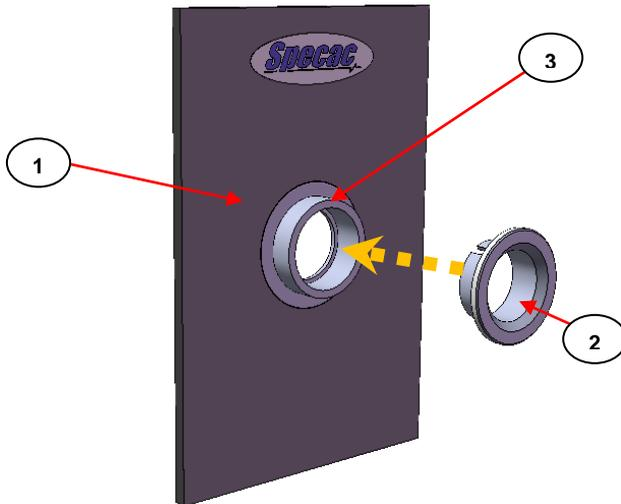

Fig 24. 13mm Diameter Pellet Holder GS03410
Supplied with the Advanced Solid Pack is the 13mm diameter pellet holder P/N GS03410. The pellet holder consists of a 3" x 2" slide mount plate (1) with a central 11.8mm diameter aperture and circular clip mount and retainer assembly. A 13mm diameter KBr pellet up to 3mm thick is held between the front ring clip part (2) and the central retainer mount (3). (See Fig 24.)